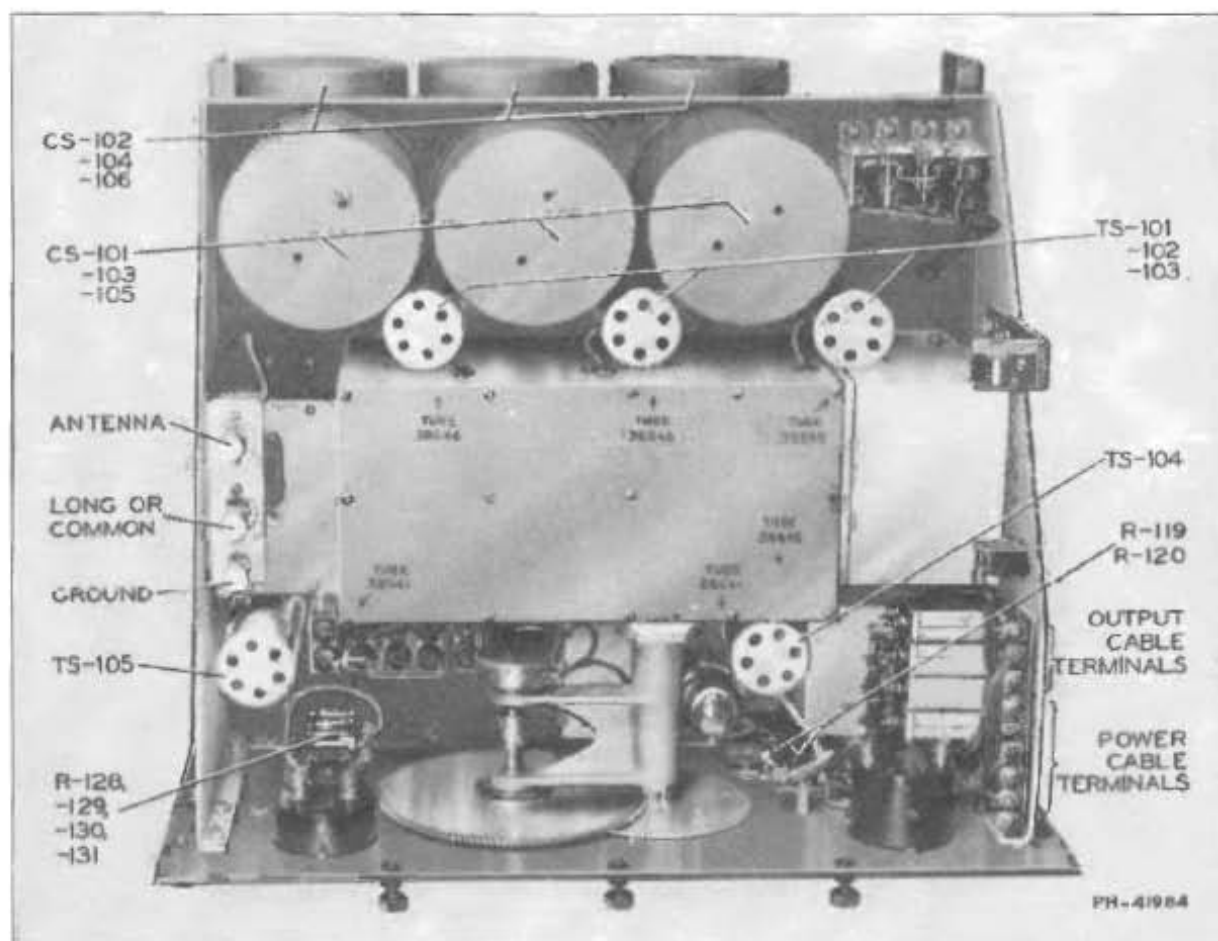

Figure 2—Receiver Unit CRV-46044 (Top View of Chassis)
7.2-1 The tube locations are shown in Figures 2 and 15.
to tubes, for servicing and for cable connections. All components are mounted on the chassis or panel forming a single assembly (see Figures 2, 3, and 6). Audio and AVC components are mounted directly behind the panel with filter and audio tuning units at the right, the first audio and output tubes in the center, and the AVC circuit at the left. Audio wiring, resistors, etc. are located beneath the chassis. The tuning capacitor assembly is located just back of the audio components. The top plate on the capacitor assembly is removable for inspection. At the rear of the chassis are located the r-f and detector tubes and the r-f coils, which are protected and shielded by screw cans. The power terminals are located at the right of the chassis and the antenna and ground terminals at the left. The band switch, r-f components and wiring are located beneath the chassis in a fabricated shield box. The large cover plate on the bottom of the receiver is removable for inspection and access to these parts.